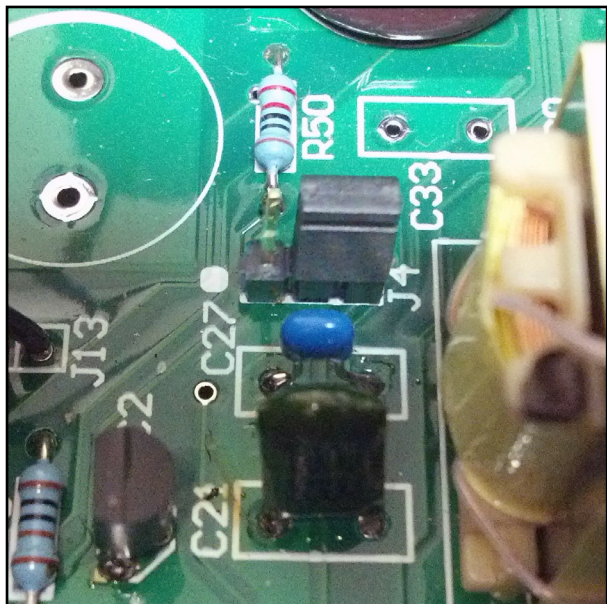

Figure 2 (Above): Vented Battery Setting
- 4.Shift link on J4 to desired position – **see Figure 2 , 3 or 4.**